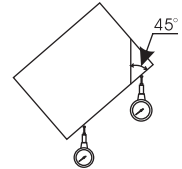

Figure 2
**For example:** calibrate the obliquity of the workpiece to 45 degree shown in Figure 2.